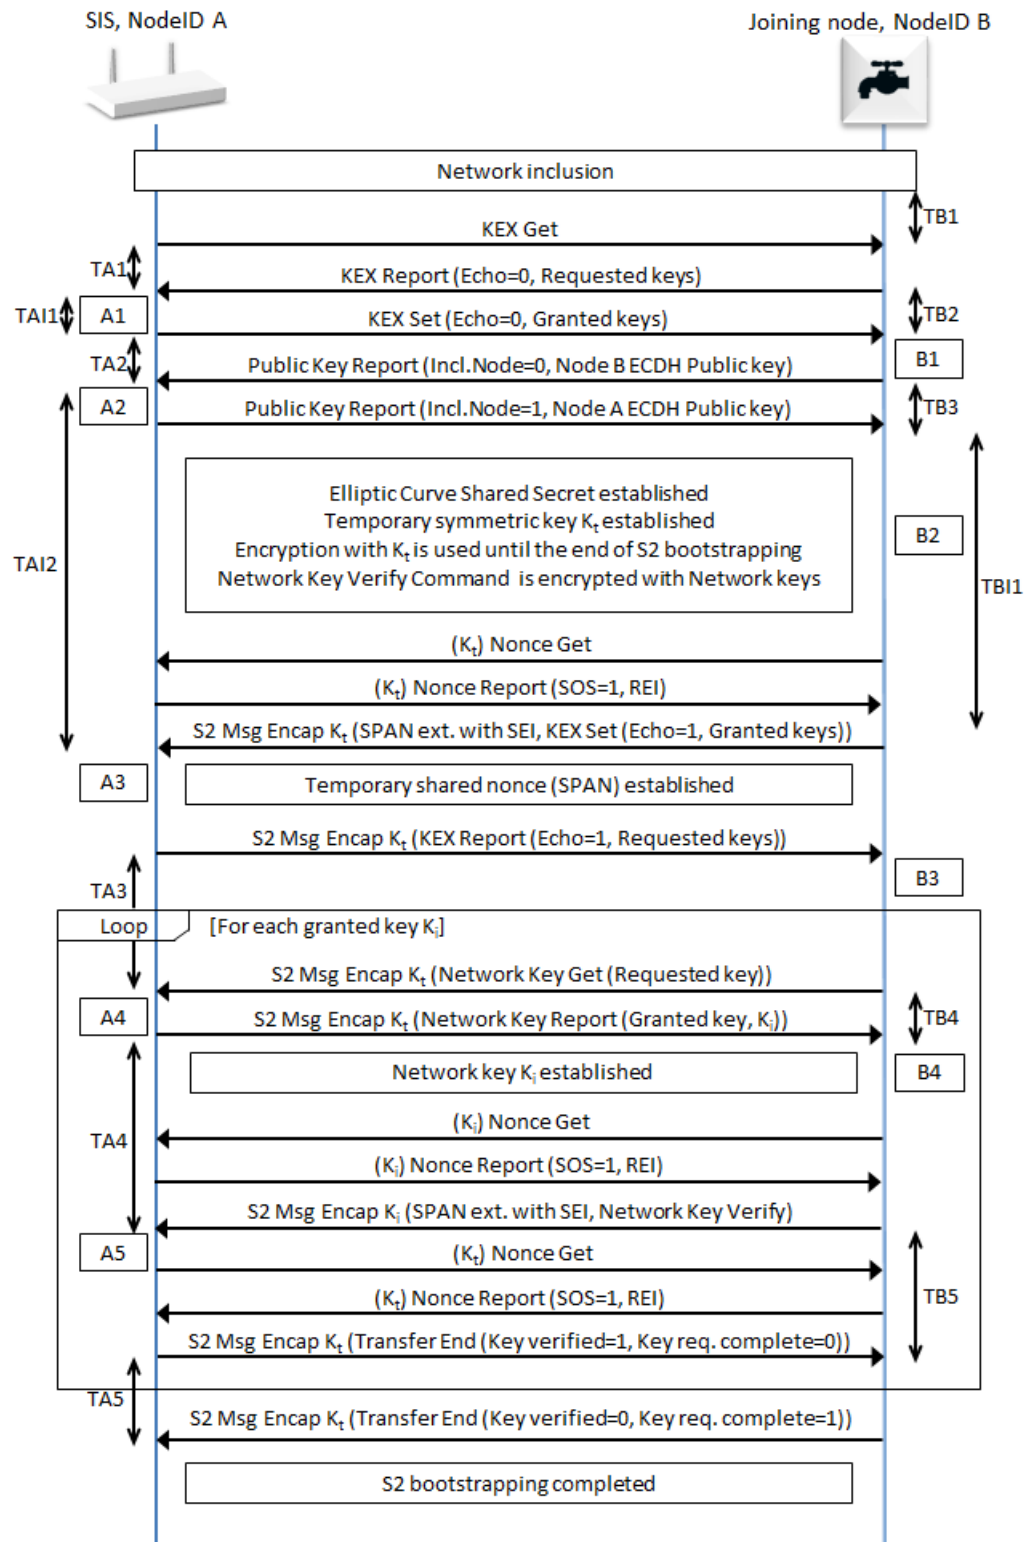

Figure 4.19: S2 bootstrapping frame flow
- CC:009F.01.00.11.055 The Key Exchange process MUST follow the frame flow illustrated in Figure 4.19.